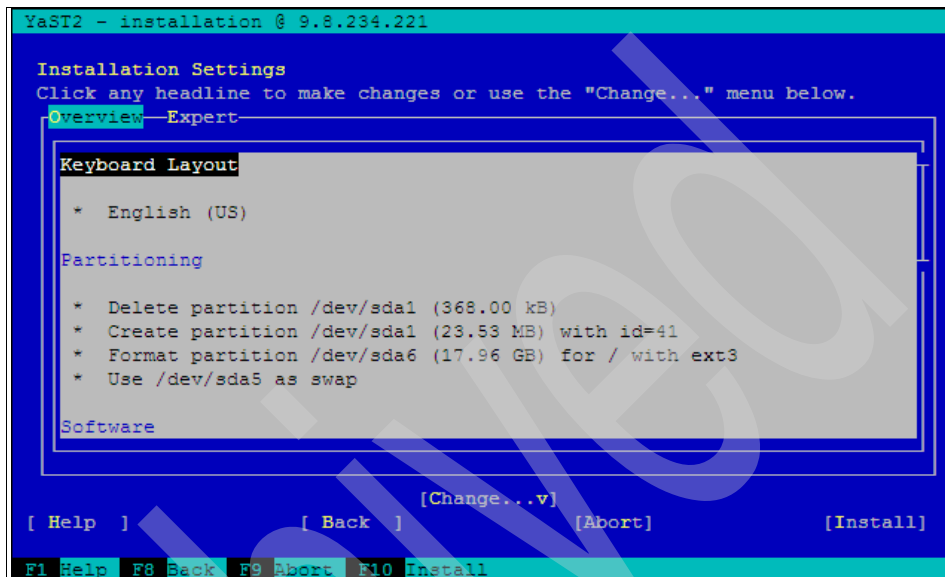

Figure 9-20 Installation Settings
14. The Installation Settings window provides the Keyboard layout, Partitioning information, Software installation options, and the install Language configuration. Select the **[Change...]** option to edit any of these fields. Select **[Accept]** when these settings are complete, as shown in Figure 9-20.